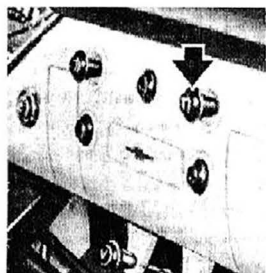

Fig. 8—Throttle Control
**Hand Throttle Control.** The throttle control knob on all models except those equipped with automatic transmission is located to the right of center of the instrument panel (fig. 8). Pulling out on the control knob opens the carburetor throttle to provide a uniform engine speed above the idle setting. It is generally advisable to pull the hand throttle control out slightly when starting